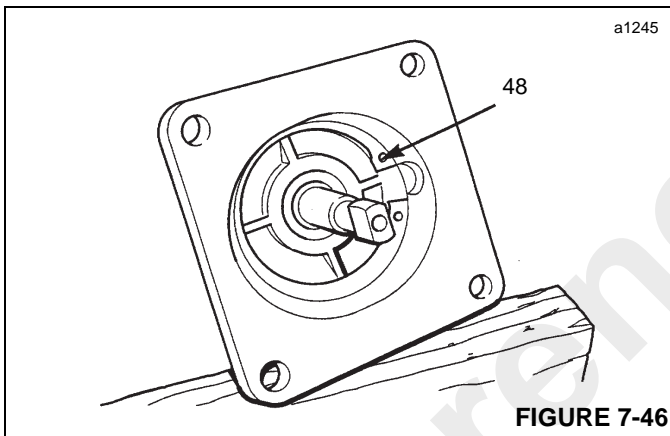

FIGURE 7-46
48. Install the components into the gear lever housing. Secure in position with retaining ring (48, Figure 7-46).